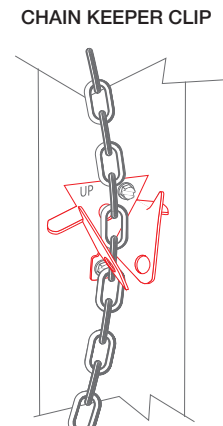

Figure 9
- Install the chain keeper clip (**Figure 9**).